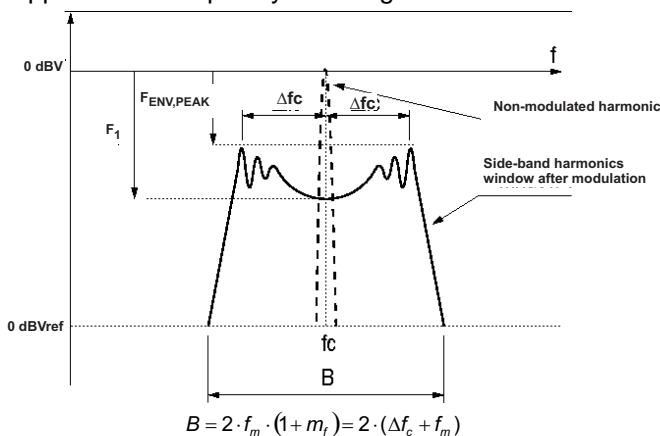
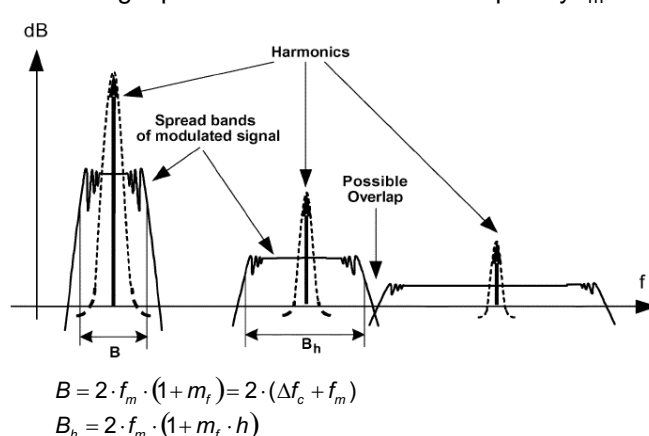

Figure 24. Spectrum Of A Frequency Modulated Sin. Wave With Sinusoidal Variation In Time
Figure 25. Spread Bands Of Harmonics In Modulated Square Signals (1)
(1) Spectrum illustrations and formulae (Figure 24 and Figure 25) copyright IEEE TRANSACTIONS ON ELECTROMAGNETIC COMPATIBILITY, VOL. 47, NO.3, AUGUST 2005. See References Section for full citation.